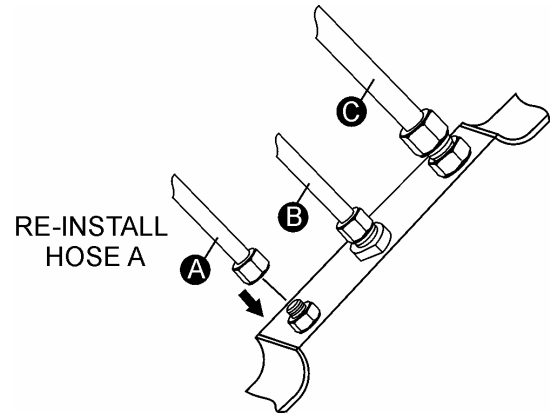

Figure 13. Re-Connect Hose A
13. Reinstall hose **A** as shown in Figure 13.